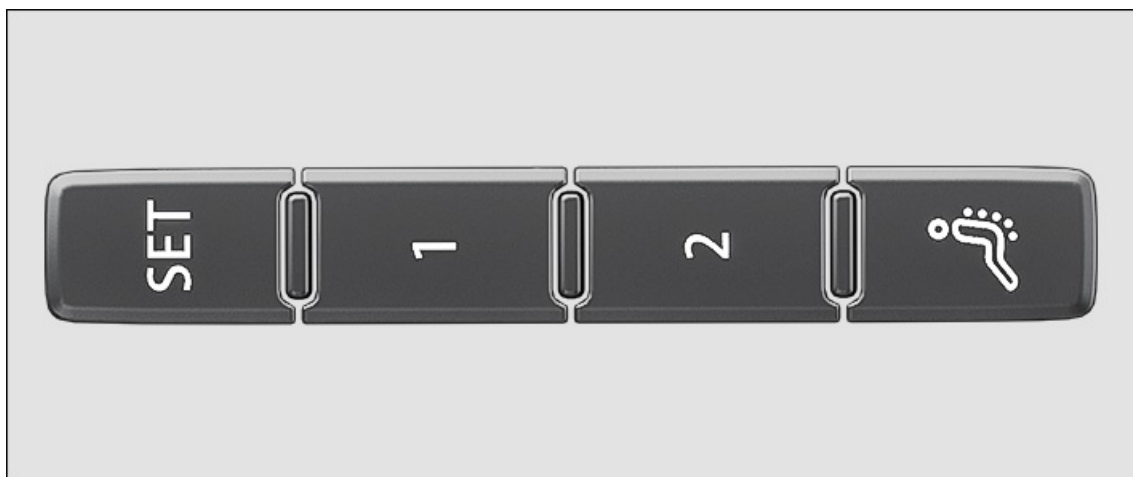

Fig. 98 On the outer side of the driver's seat: memory buttons.
5. Press and hold the **(SET)** button fig. 98 for longer than one second.
4. Press the desired memory button fig. 98.